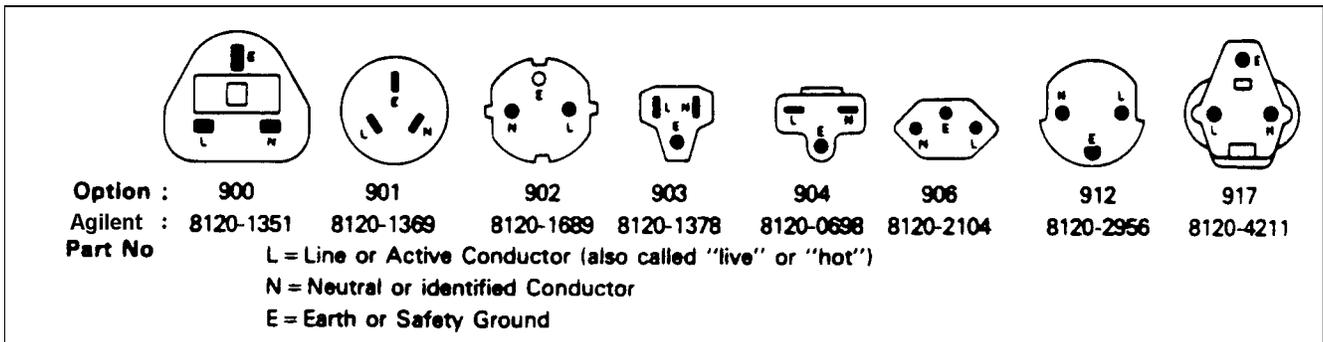

Figure 3-1. Power Cord Configurations
Power Cord	Your Electronic Load was shipped with a power cord for the type of outlet used at your location. If the appropriate cord was not included, contact your nearest Agilent Sales and Service Office to obtain the correct cord (see Figure 3-1 for the part number and order option).
**SHOCK HAZARD** The power cord provides a chassis ground through a third conductor. Be certain that your power outlet is of the three-conductor type with the correct pin connected to earth ground (see Figure 3-1).